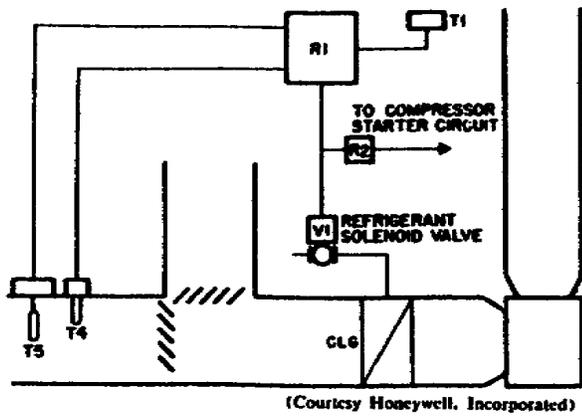

Figure 134. Refrigerant solenoid valve control system.
6. **Refrigerant Solenoid Valve Control.** The electron control panel R1 in figure 134 will control space temperature by coordinating signals from the space thermostat T₁ and the outdoor thermostat T₄ to operate the refrigerant solenoid valve V₁. T₄ will raise the space temperature as the outdoor temperature rises to a predetermined schedule. T₃ will remove T₄ from the system when the outdoor temperature falls below the setting of T₃ to prevent subcooling of the space at low outdoor temperature.